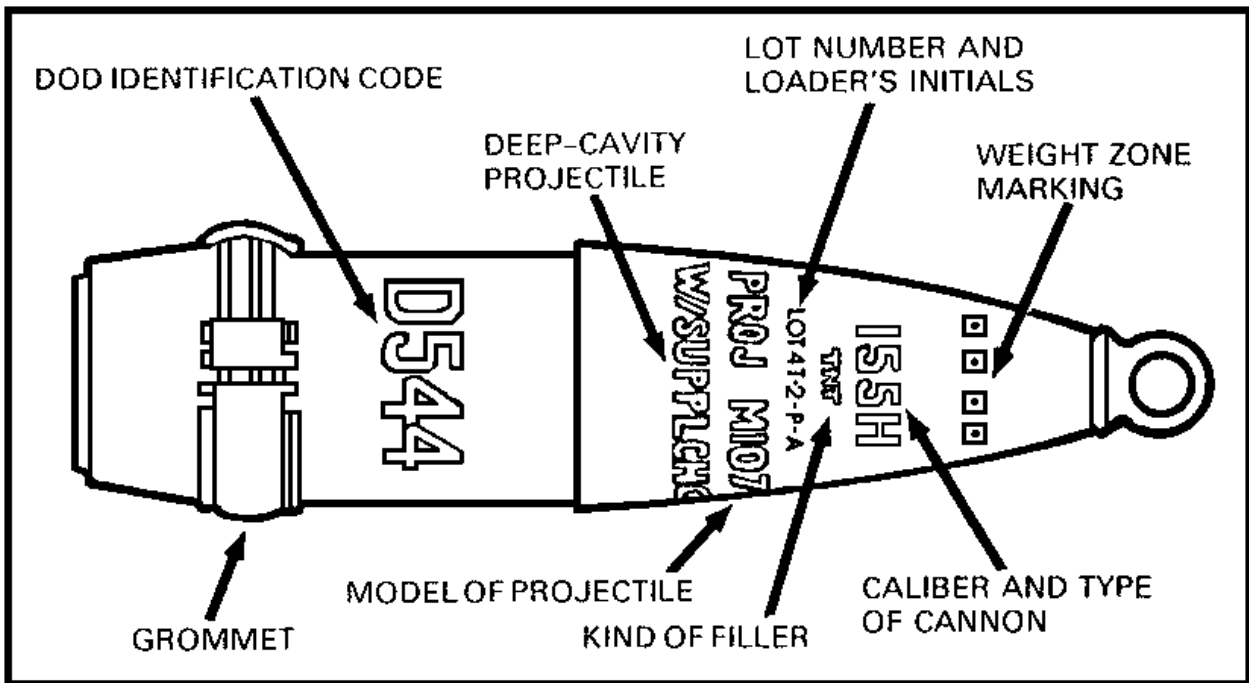

Figure 13. Marking of the 155-mm HE projectile.
a. Identification. Projectile colorings and markings (new and old) are listed in Table 6. Additionally, important information is stenciled on each projectile (Figure 13). Knowledge of the color coding and meaning of the markings will aid in the rapid selection of the required projectile when firing. Know your ammunition.